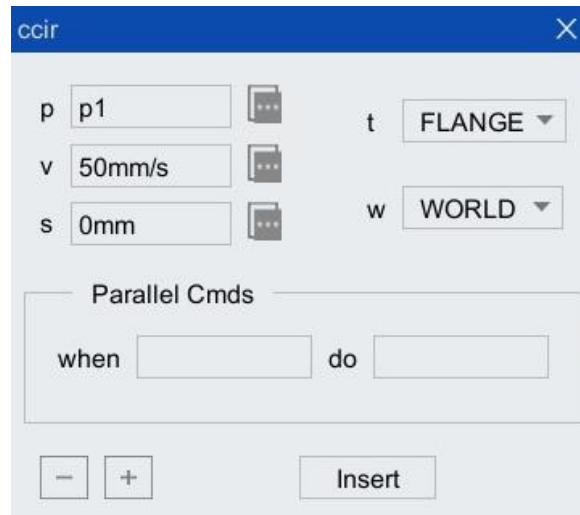

Figure 5-30 "ccir" Instruction configuration interface
Step1.Click "Insert Cmd > Motion instruction > ccir" option in the toolbar of "Program editor", and the "ccir" instruction configuration interface as shown in Figure 5-30 will pop up.
Step7.Click the <Insert> button in Figure 5-30, and the instruction is inserted successfully.